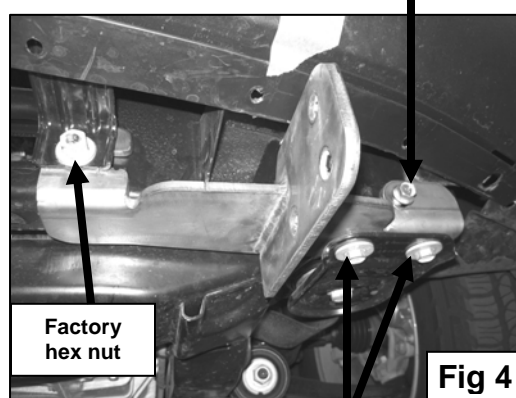

Fig 4
6. Once the Mounting Bracket is in place, use the included 3/8" x 1" Self Tapping Bolt to attach the outer front facing Mounting Location on the Bracket to the factory hole in the cross member bar. Re-install the factory hex nut and the two bolts removed from the motor mount bushing. Tighten all hardware at this time including the large bolt on the motor mount bushing (**figure 4**). Tighten the large motor mount bolt to 75 ft lbs.